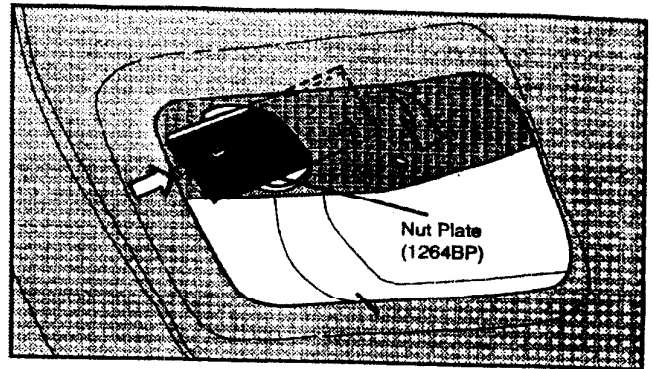

Figure 1
4) Insert Nut plate (1264BP) up through the large hole in the bottom of the bumper. NOTE: Insert the end with the offset weld nut first and align the bracket with the large and small round holes in the bumper. (See Figure 1)